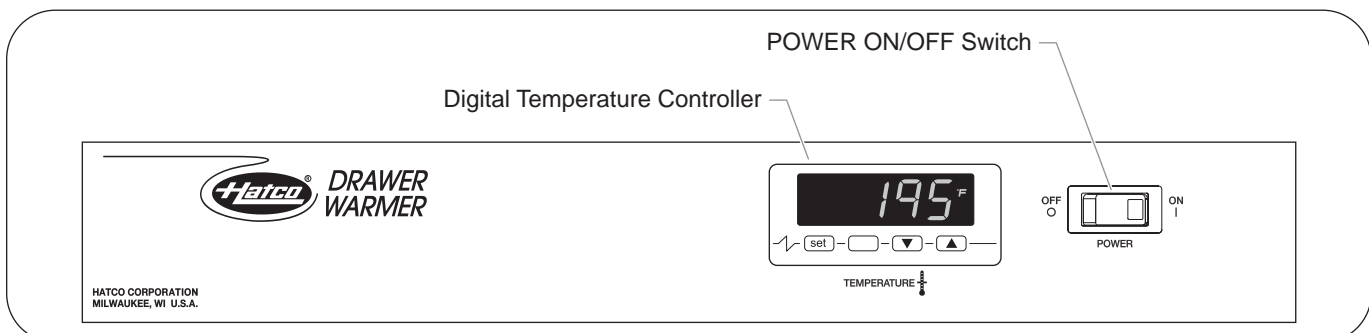

Figure 8. Model HDW-3N-MN Control Panel
2. Move the POWER ON/OFF switch to the ON position (see Figure 8). The switch will illuminate.